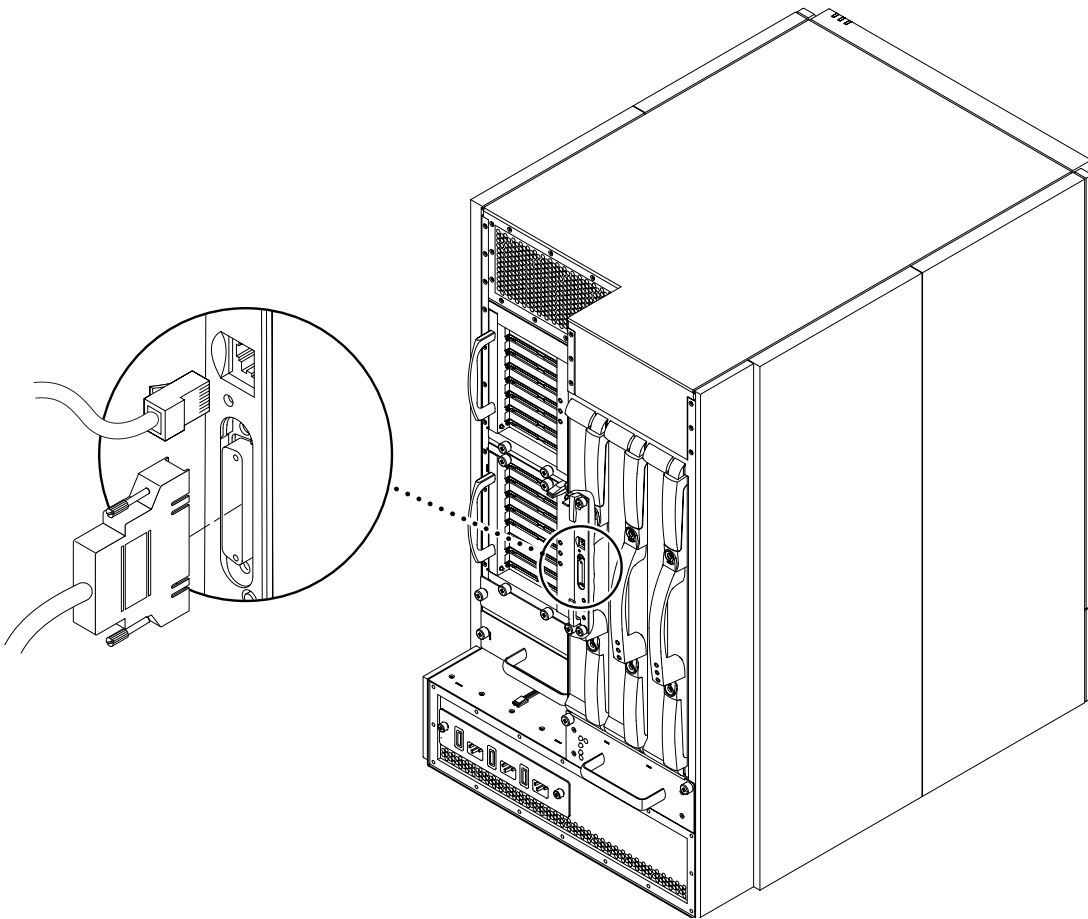

FIGURE 4-2 Primary System Controller Connections on the Sun Fire 4800 System
1. Connect one end of the serial cable (TTYa or Null modem) to the serial port on the primary System Controller board (FIGURE 4-2).
1. Connect one end of the shielded Category-5 Ethernet cable to the RJ-45 Ethernet port on the primary System Controller board (FIGURE 4-2).